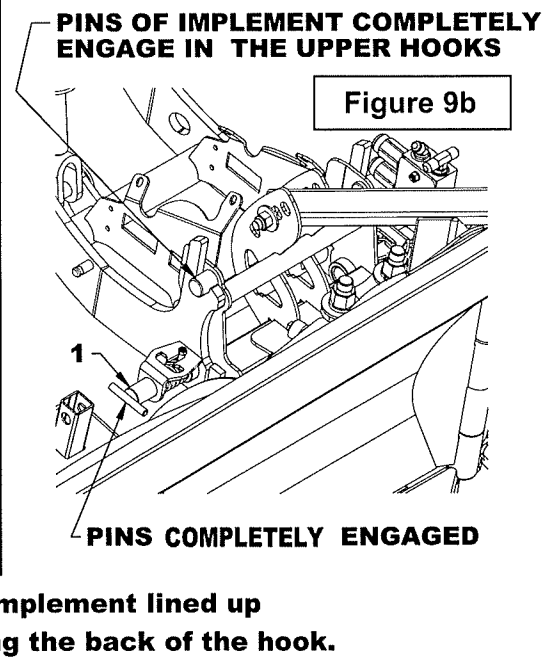

Figure 9b
7. **Figure 9b:** Reposition the two subframe T pins (item 1, right side view), and the engagement lever of the mechanical drive, of the subframe according to the procedure at steps 9-10 next page. **Make sure the pins are completely inserted.**